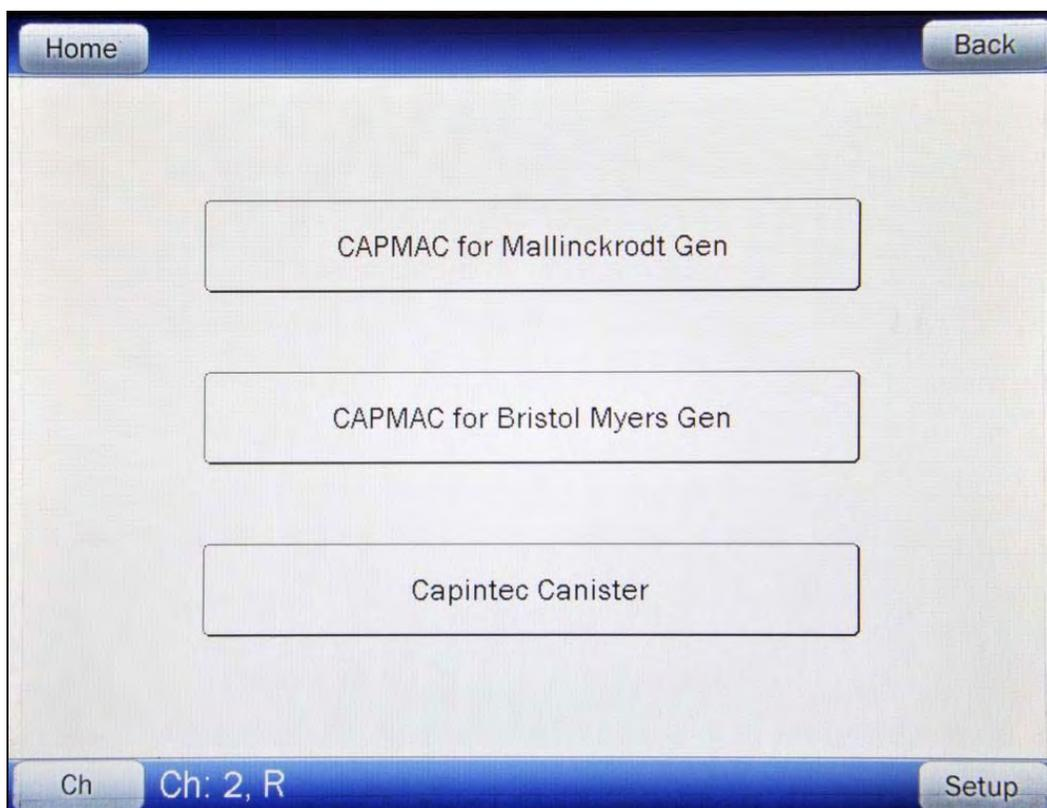
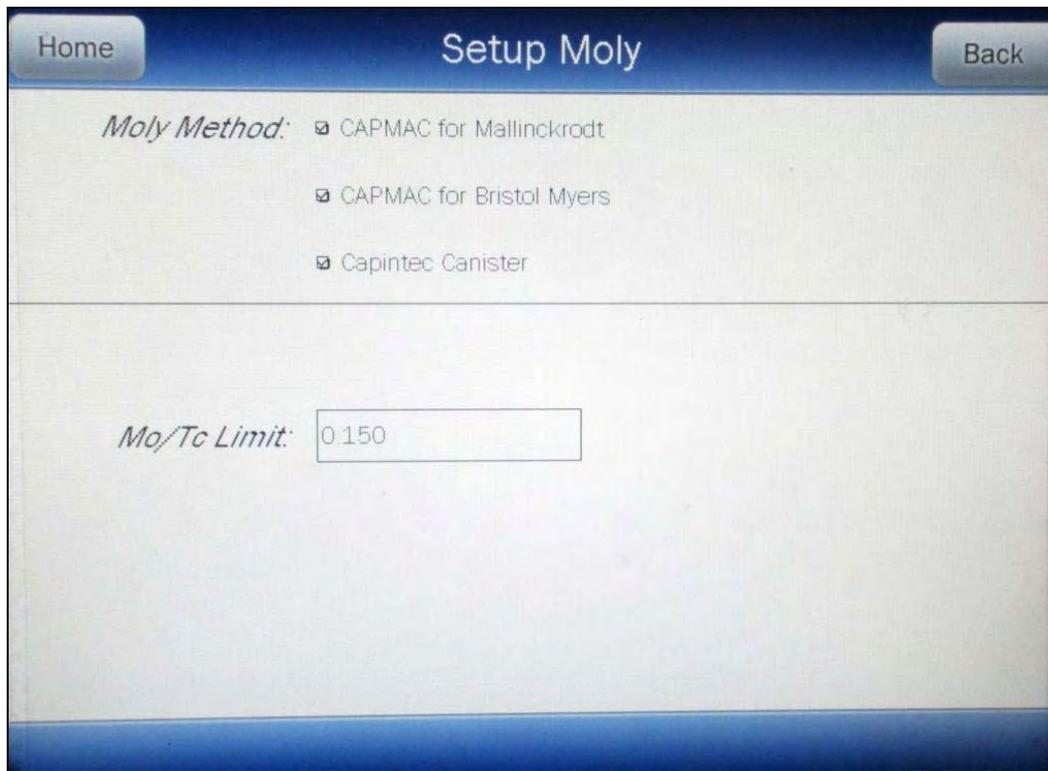

Figure 6-17 Moly Assay Method Selection Screen
Figure 6-18 Setup Moly Screen
When the Moly Assay button is touched from the Chamber Measurement screen, Figure 6-17 Moly Assay Method Selection Screen will appear. However, if only one method is always used (either a CAPMAC or a CANISTER), the Moly Assay Method Selection screen can be omitted by selecting either CAPMAC or CANISTER from the Moly Setup.
1. From Figure 6-1 Chamber Measurement Screen, touch the **MOLY ASSAY** button. Figure 6-17 Moly Assay Method Selection Screen will appear. Touch the **SETUP** button. A numeric keypad will appear to allowing the user to input a 3-digit password as shown in Figure 6-9 Enter Password: Screen. Input the password (last 3 digits of serial number) by touching the appropriate numbers on the keypad. Touch the **ACCEPT** button to accept the password. Figure 6-18 Setup Moly Screen will appear.
2. From Figure 6-1 Chamber Measurement Screen, touch the **SETUP** button. Figure 6-8 Setup Screen will appear. Touch the **ADVANCED CHAMBER** button. A numeric keypad will appear to allowing the user to input a 3-digit password as shown in Figure 6-9 Enter Password: Screen. Input the password (last 3 digits of serial number) by touching the appropriate numbers on the keypad. Touch the **ACCEPT** button to accept the password. Figure 6-10 Advanced Chamber Setup Screen will appear. From the Advanced Chamber Setup Screen, touch the **SETUP MOLY** button. Figure 6-18 Setup Moly Screen will appear.